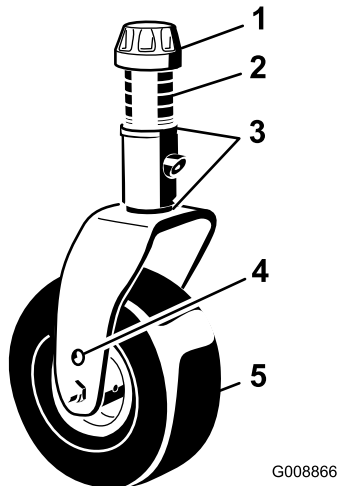
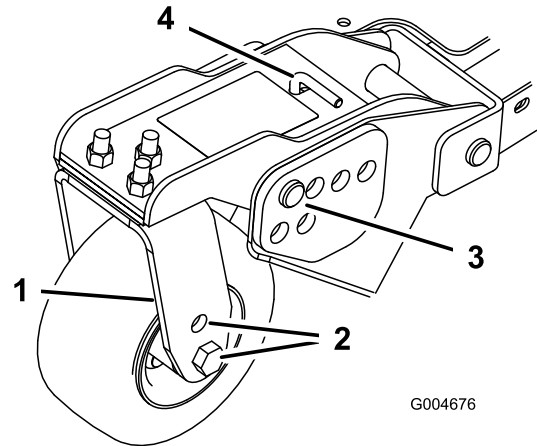
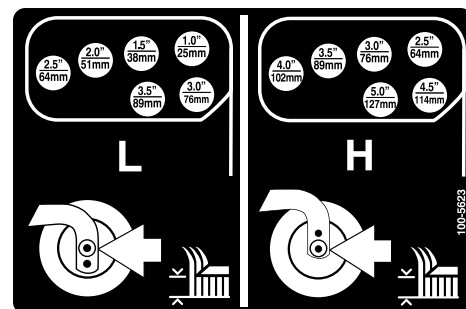

Figure 23
Figure 25
Figure 26
1. Position the caster-wheel axles in the same holes in all of the caster forks (Figure 23 and Figure 25).
- Remove the tensioning cap from the spindle shaft and slide the spindle out of the caster arm (Figure 23).
- Remove the hairpin cotter and clevis pins from the caster-pivot arms (Figure 25).
- Rotate the tension rod to raise or lower the pivot arm until the holes are aligned with the selected height-of-cut bracket holes in the mower-deck frame (Figure 25 and Figure 26).